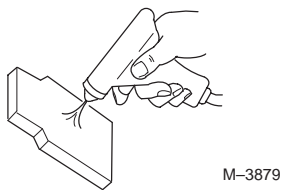

Figure 13
2. Clean the felt air filter and the cover with compressed air (Fig. 13).